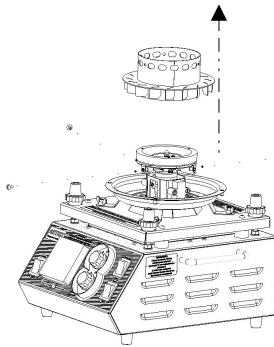

Figure 8
5. Detach rotor by removing three screws, see Fig.8. Rinse rotor with water and wipe dry immediately.